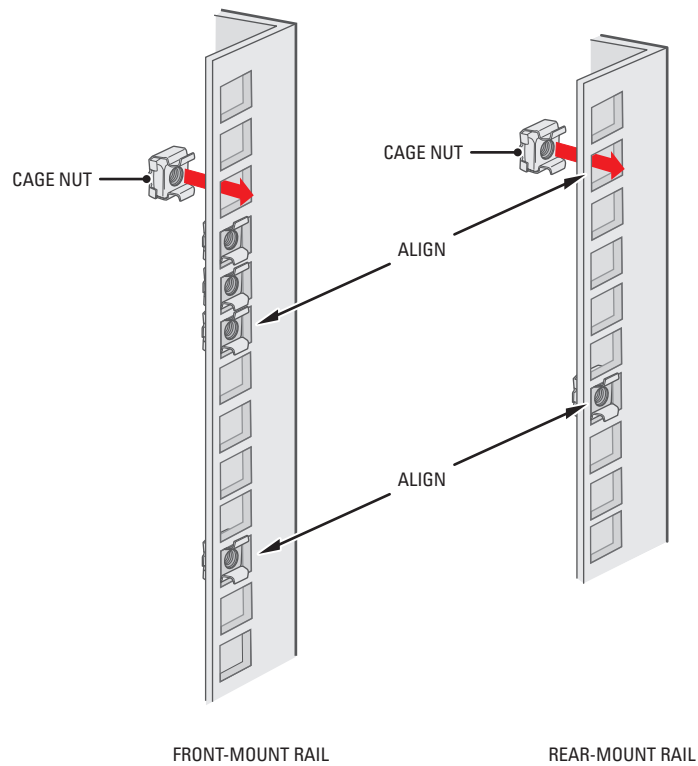

Figure 11. Inserting Cage Nuts
4. *If you are installing the unit into a square-hole rack:* Insert 14 cage nuts into the square-hole rack as shown in Figure 11. Align the bottom cage nuts on the front racks with the bottom cage nuts on the rear racks. Then align the top cage nuts on the rear racks with lowest of the top cage nuts on the front racks.